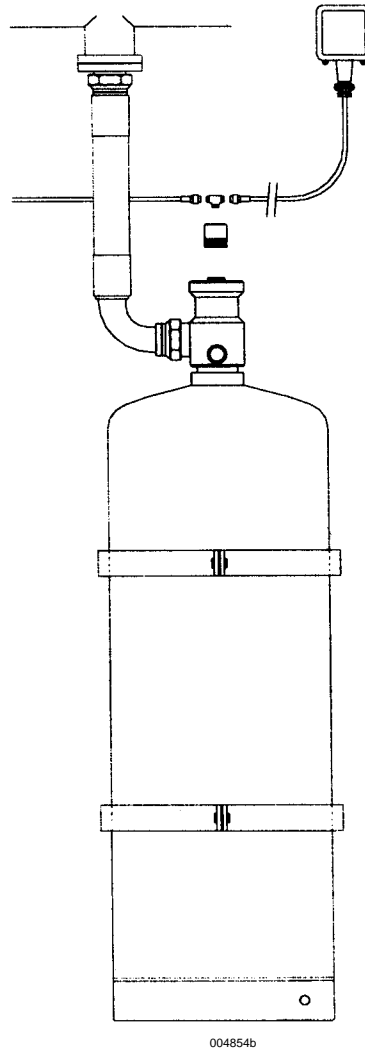

Figure 45 - Discharge Pressure Switch Installation
- On multi-tank installations, the pressure switch should be located close to the last slave tank and connected by pilot hose to the tee connector on the pneumatic actuator (see Figure 45).